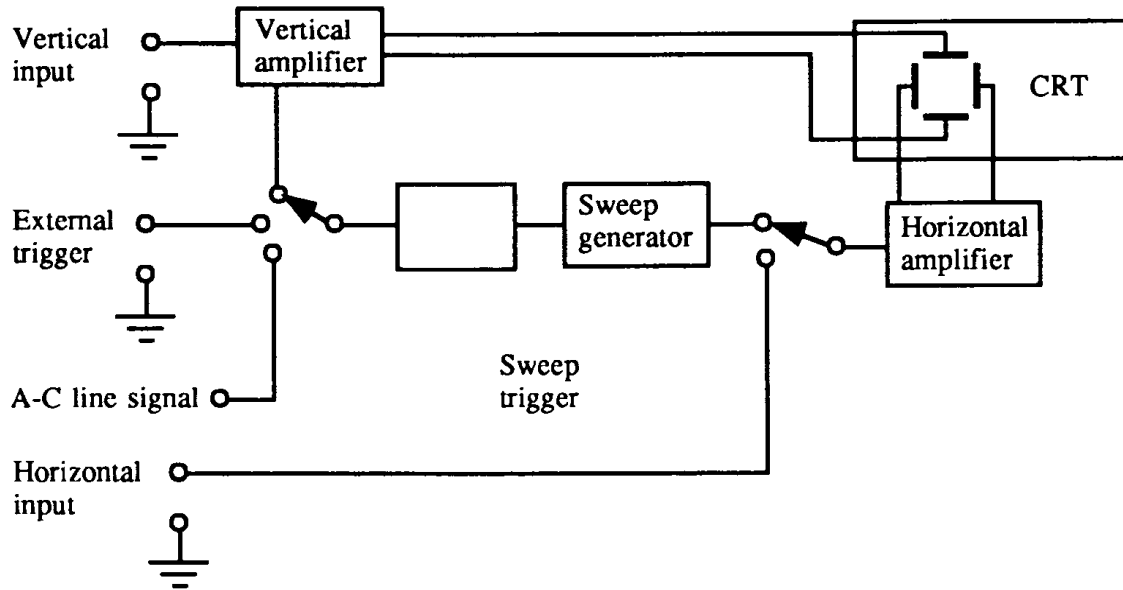

Figure 3. Block diagram of a typical oscilloscope.
**CRO Operation:** A simplified block diagram of a typical oscilloscope is shown in Fig. 3. In general, the instrument is operated in the following manner. The signal to be displayed is amplified by the vertical amplifier and applied to the vertical deflection plates of the CRT. A portion of the signal in the vertical amplifier is applied to the **sweep trigger** as a triggering signal. The sweep trigger then generates a pulse coincident with a selected point in the cycle of the triggering signal. This pulse turns on the sweep generator, initiating the sawtooth wave form. The sawtooth wave is amplified by the horizontal amplifier and applied to the horizontal deflection plates. Usually, additional provisions signal are made for applying an external triggering signal or utilizing the 50 Hz mains line for triggering. Also the sweep generator may be bypassed and an external signal applied directly to the horizontal amplifier.